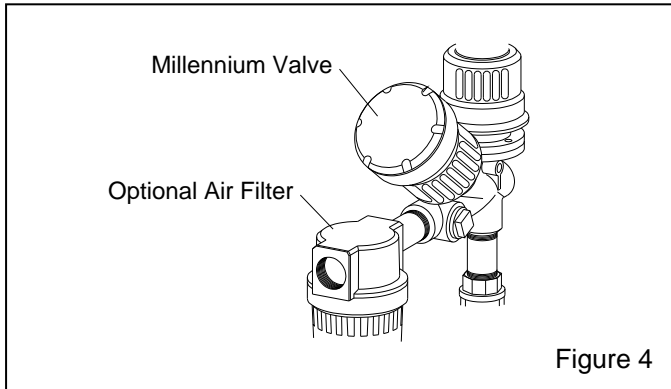

Figure 4
2.3 Install Optional Air Filter (Moisture Separator) Figure 4, NOTE: The filter is included with blast machine systems.
2.3.1 Install a compressed-air filter to the inlet valve as shown in Figure 4. It is recommended that a filter be installed at this location to remove moisture from air before it enters the machine. If problems with moisture